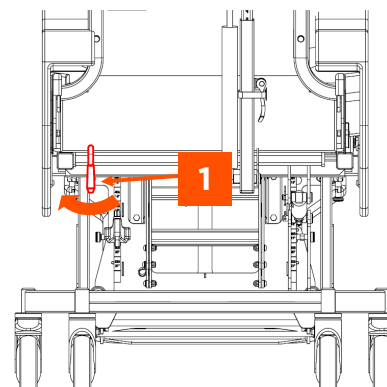

FIGURE 13
3. At the back of the chair, under the seat on the lefthand side, locate the depth adjustment lever (Fig 13, Item 1)